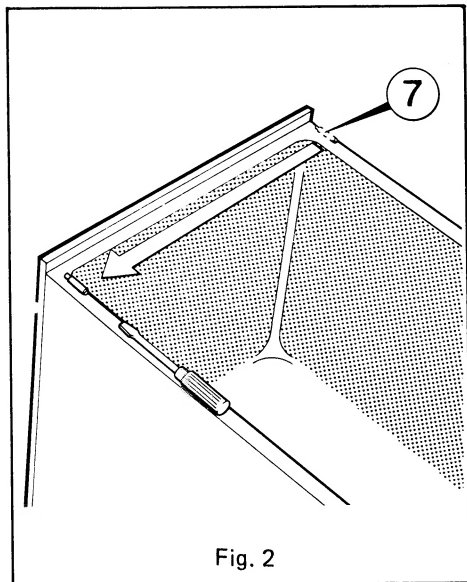

Fig. 2
3. Carefully disengage the door from the upper hinge pin (7) (fig.2).
4. Unscrew the upper hinge pin (7) and transfer it to the opposite side.